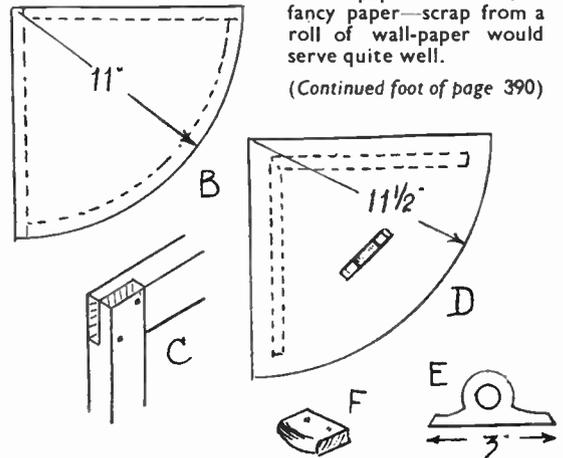

Fig. 3—The lid, feet and handle
At this stage cut the lid, shown at (D) in Fig. 3. This can be cut from plywood, or good quality hardboard might serve. Lay the lid upside down on the bench, and stand the carcase of the basket on it, also upside down. See the lid extends beyond the basket about $\frac{1}{2}$ in. each side.
Washing day is always a hard day when it comes to carrying the wet clothes in and out of doors and chasing the peg bag. The workmanlike garden washing day trolley seen in Fig. 3 is made from a drawer from an old chest of drawers. It is cleaned up, with handles added at each end and lined with some light American cloth, put on with paste.